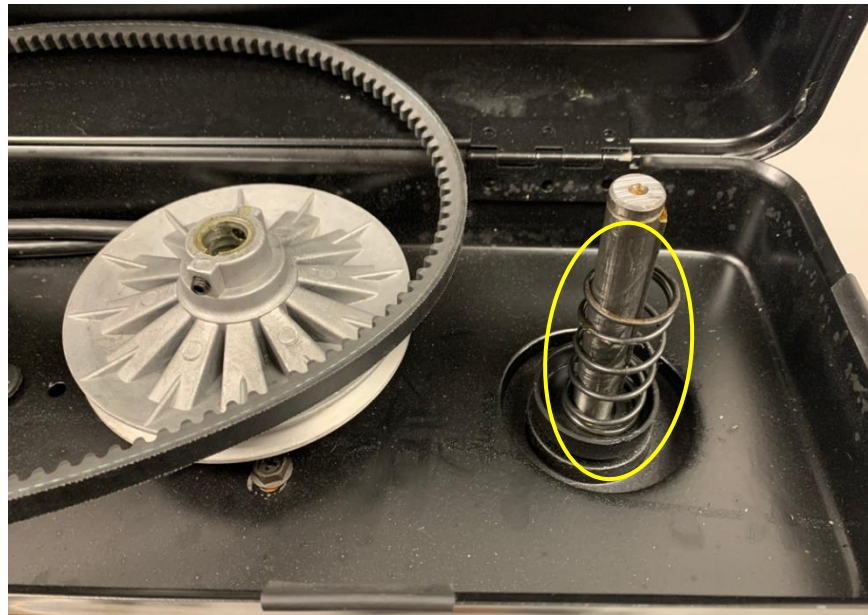

Figure 4. Motor Pulley Assembly Spring
4. Once the pulleys are removed, the motor shaft will be fully exposed as shown in Figure 4. Remove the spring (circled in yellow) and store it in safe place. You will need to put the spring back in place once the motor has been swapped out.